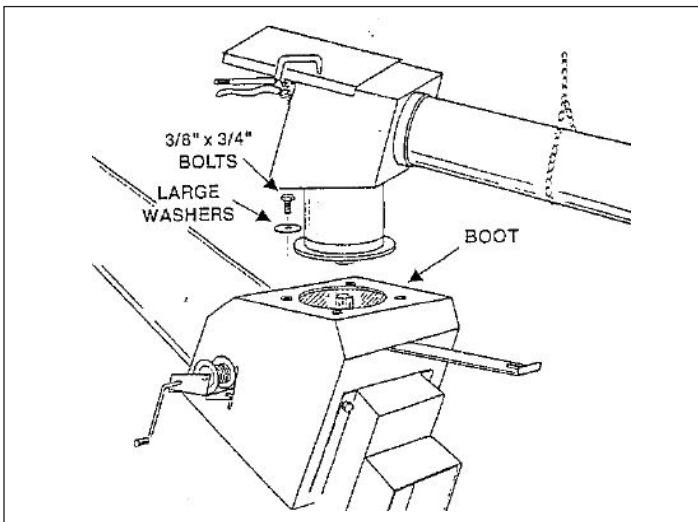

Figure No. 3
12. Install four large washers with 3/8" x 3/4" bolts to keep the intake hopper in place on the boot. (See **Figure No. 3**)